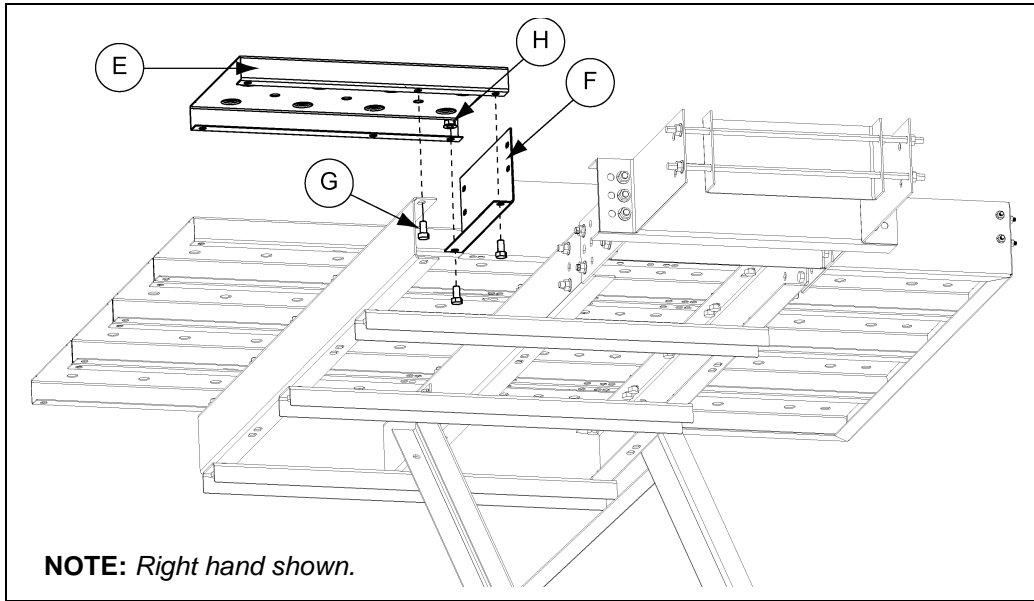

Figure 10I
4. Align flange of end toe board along the bottom of decking. Connect end toe board to decking using 1/2" x 1" bolts and nuts. (See Figure 10I on Page 80.)